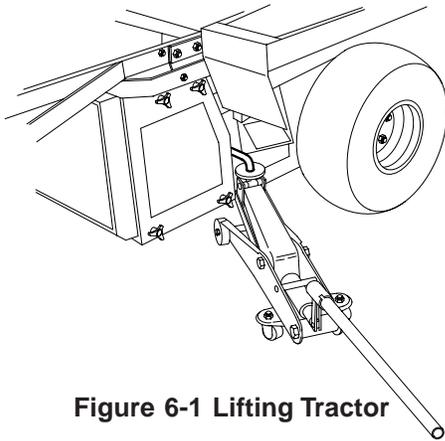

Figure 6-1 Lifting Tractor
1. Position a floor jack under the lift bracket on the right side of the tractor as shown in Figure 6-1. Raise the tractor and remove the right wheel and tire.